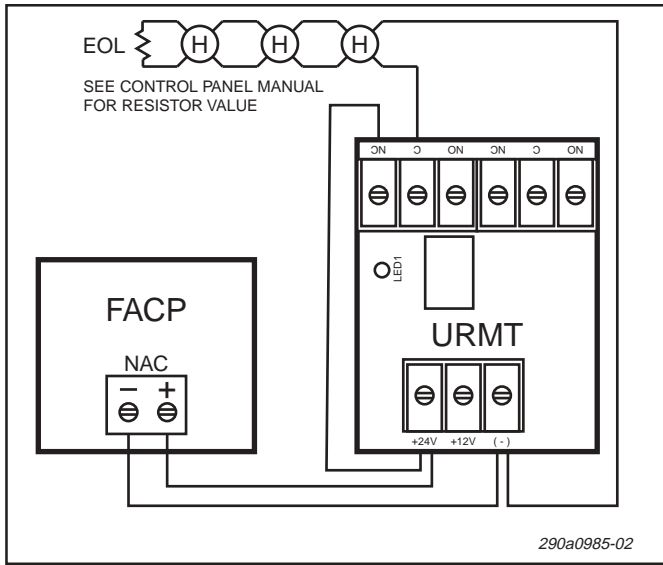

Figure 3. Single Style Y NAC using URMT-1
1. See Figure 3 for typical system wiring when the Fire Alarm Control unit is capable of providing current for the entire Fire-Protective Signaling System.